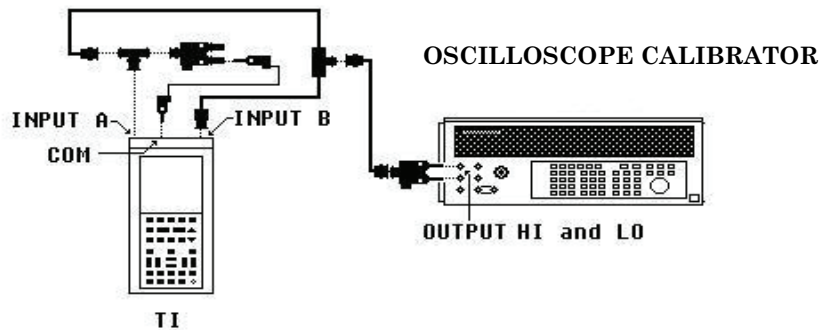

Figure 11. Trigger level.
- (26) Shift gain \*1 mode by pressing pushbuttons sequence (a) through (d) below:
- (27) Shift gain /8 mode by pressing pushbuttons sequence (a) through (c) below:
- (28) Reset oscilloscope calibrator.
- (29) Connect equipment as shown in figure 11 below: